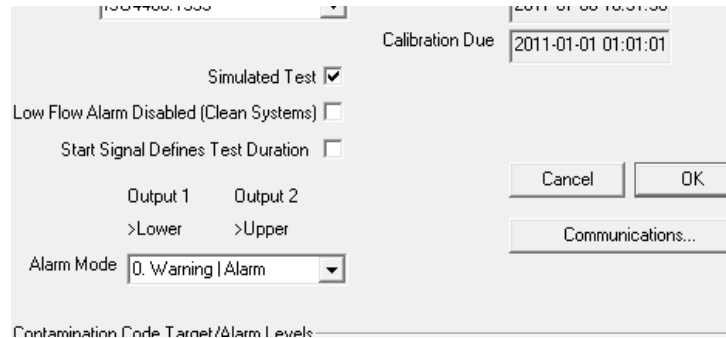

Figure 6.22
This setting can be used when there is no flow available but communications need to be tested. This is the box ticked in figure 6.22
- It may be necessary that the low flow indicator is turned off if filtration is below 10um (ISO 14/12/10 (NAS Class 4)), see figure 6.22 for location.